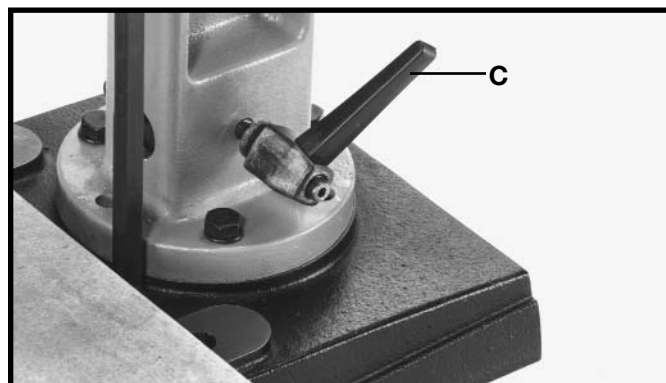

Fig. 10
4. Fig. 10 illustrates the handle assembly (C) attached to the column.